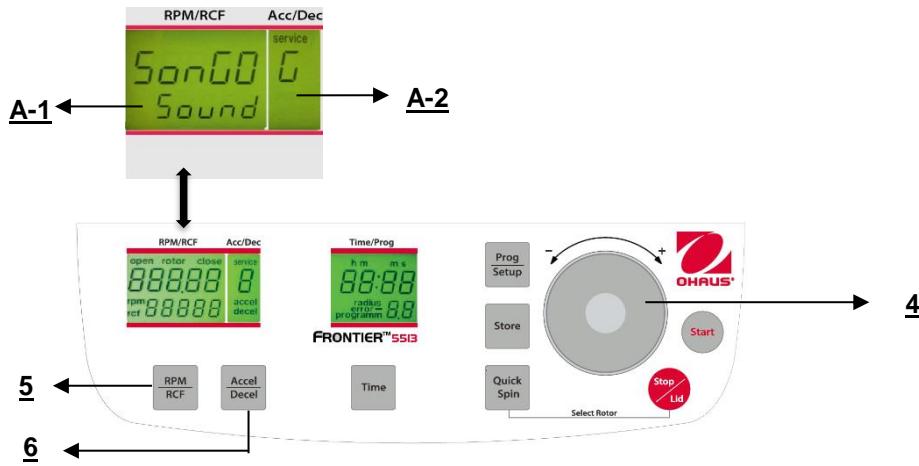

Figure. 32
Proceed as described under point 4.1.2 to enter this program mode and then press the key **"Accel/Decel"** (6). In the display **"Acc/Dec"** (A-2) the word **"Service"** flashes. Now select the letter **"G"** with the adjusting dial (4). As a result, in the display **"RPM/RCF"** (A-1), the word **"SonGo/Sound"** appears. After pressing the key **"RPM/RCF"** (5), you can select a song with the adjusting dial (4). (See figure 32).